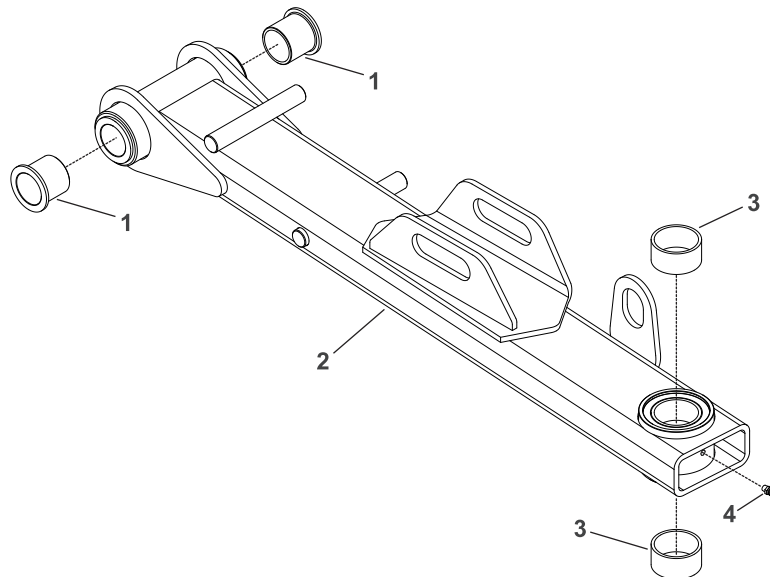

Figure 12
7. If necessary, remove the grease fitting (item 4 in Figure 12), flange bushings (1) and straight bushings (3) from the lift arm assembly (2).
8. Thoroughly clean the lift arm assembly bores (2).